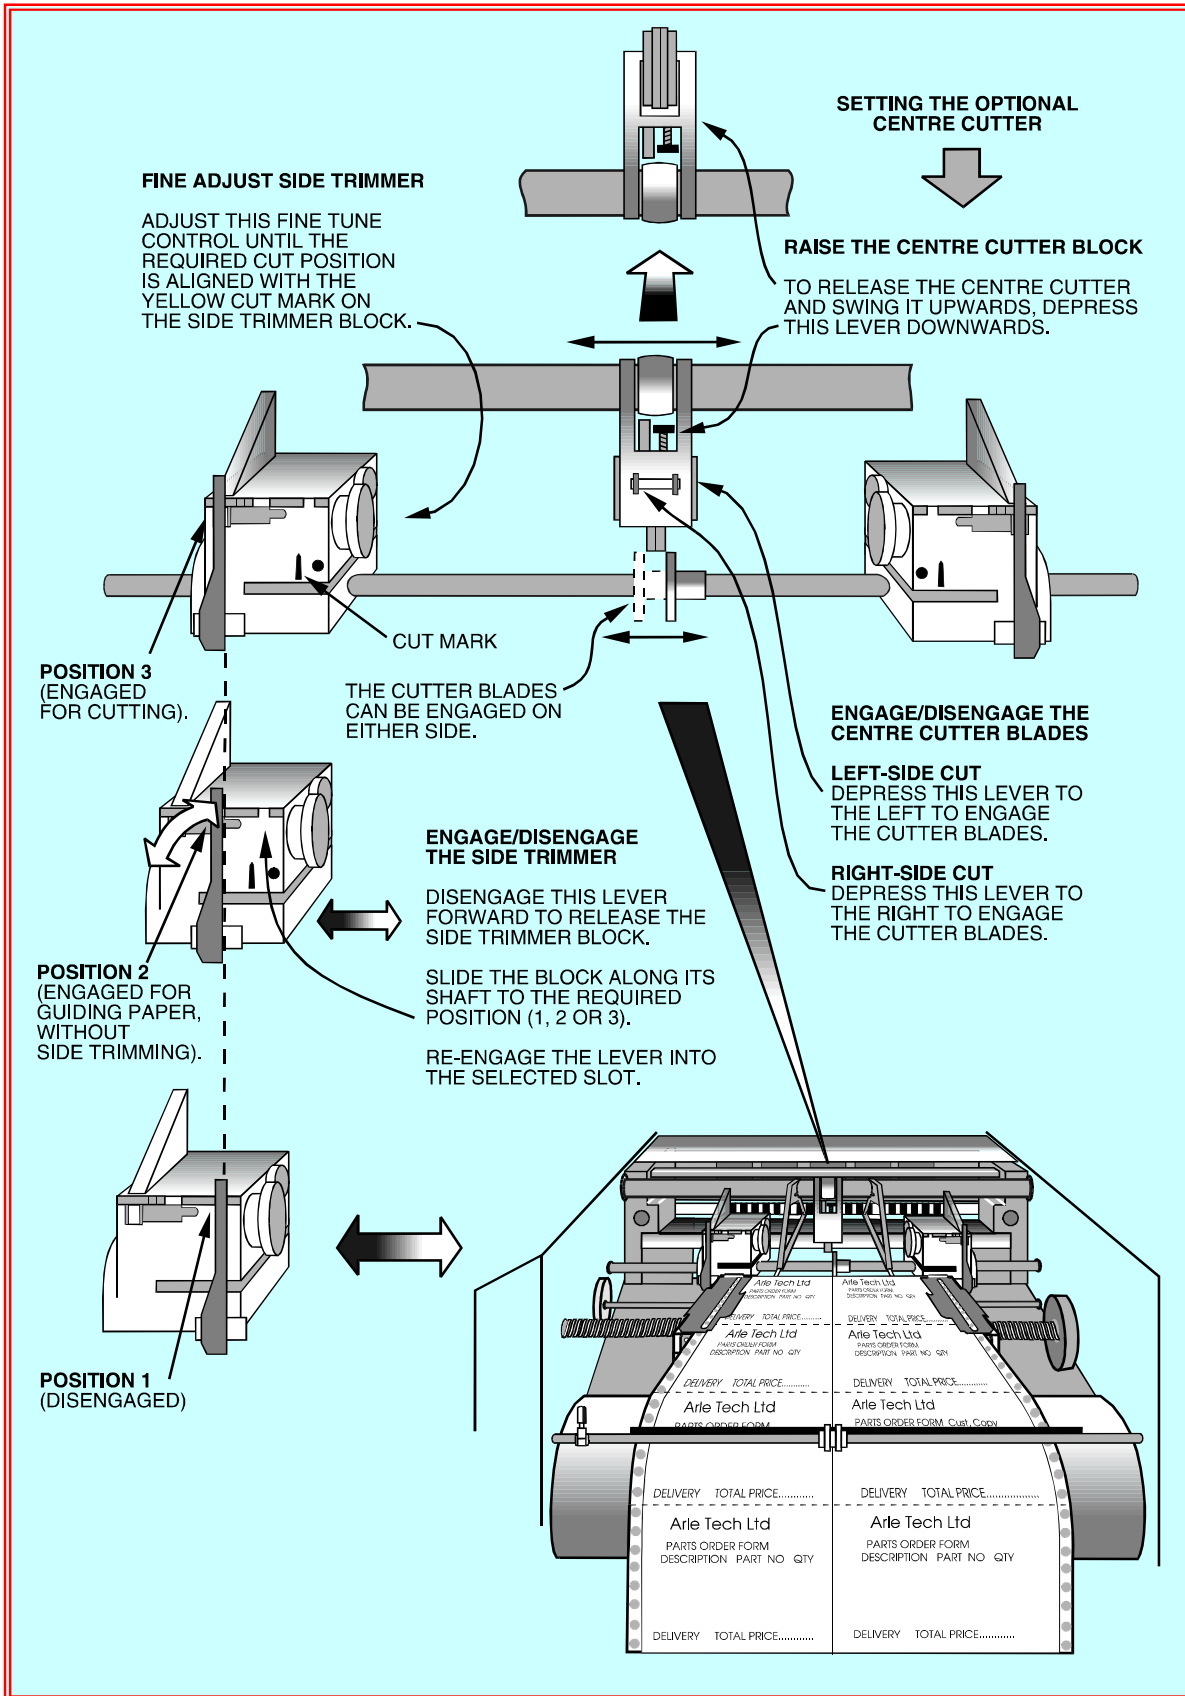

Fig 3.6 Setting Side Trimmers & (Operational) Centre Cutter
- If side trimming is required, open the protective cover and slide the side trimmer(s) so that the trimmer block(s) engage with the tractor unit(s), (position 3 as shown on Fig 3.6). Align the yellow cut mark with the side carrier cut line.
- If a centre cut is required, engage the centre cutter and adjust its position to align with the centre cut mark on the paper web, as shown in Fig 3.6.
- As an option, it is possible to set the side trimmers to position 2 as shown on Fig 3.6, so that they are acting as paper guides only, not trimming the sides.
- Release the centre cutter as shown on Fig 3.6, so that it cannot cut.